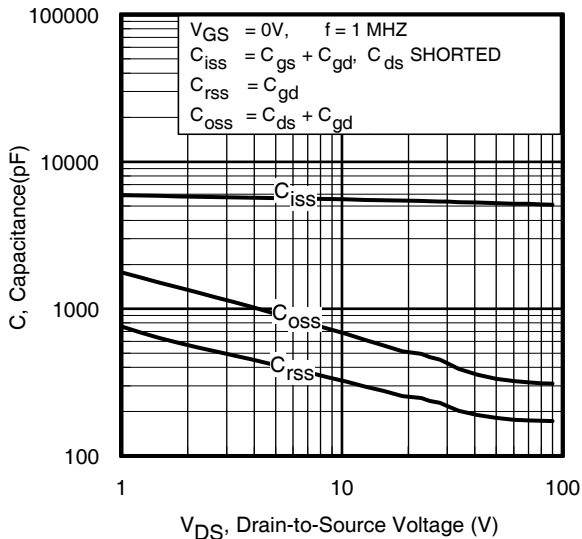

Fig 5. Typical Capacitance vs. Drain-to-Source Voltage
| C _{oss} eff. (TR) | Effective Output Capacitance (Time Related) ^⑥ | — | 500 | — | | V _{GS} = 0V, V _{DS} = 0V to 80V ^⑥ , See Fig. 5 |